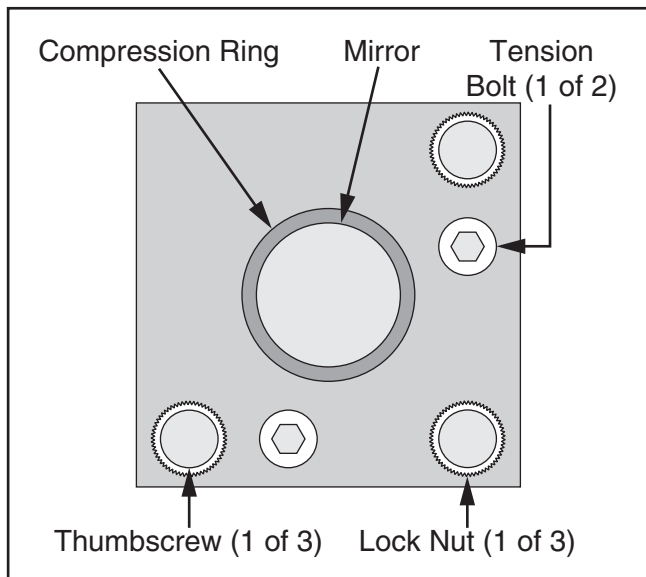

Figure 112. Typical mirror assembly.
24. Loosen lock nuts on (3) brass thumbscrews located behind Mirror #2 assembly (see **Figure 112**).